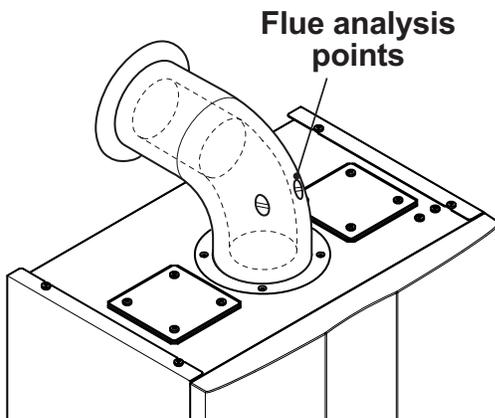

Fig. 9.15
- Connect a flue analyser to the flue analysis outlets on the flue exhaust of the boiler Fig. 9.15.
- Check the combustion of the boiler using the outlets located on the flue tubes (Fig. 9.15) and compare the data measured with that